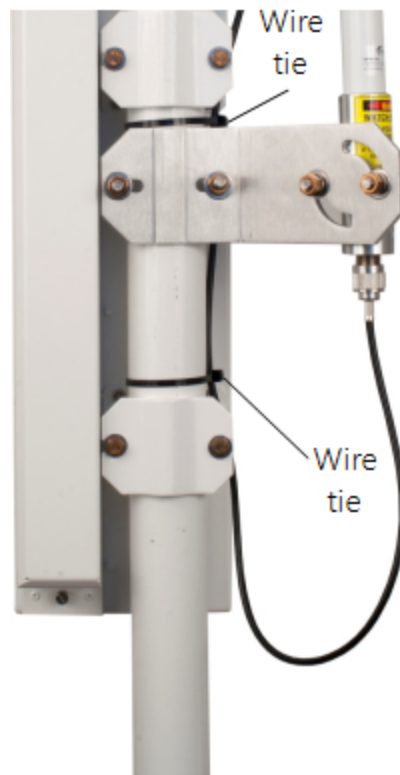

FIGURE 6-35. Wire tie locations for omnidirectional antenna installation
9. Use the following procedure to install the Yagi antenna for the radio. Installation of the omnidirectional antenna is similar (FIGURE 6-35 (p. 50)).